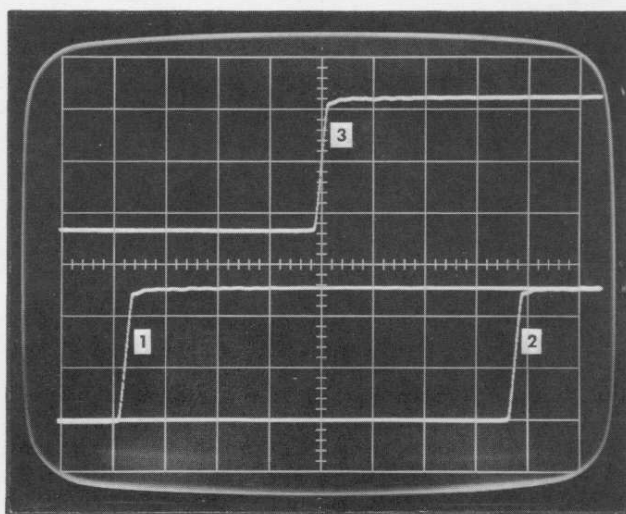

Fig. 6-13. Waveforms for step 17. Sweep rate: 2 ns/div, with Display mag switch at X1.
17. Adjust Type 352 A Delay Control ①
- c. Obtain a step display of the signal fed to Channel B. Set the B DELAY control fully counterclockwise and use the sampling sweep unit Time Position controls to move the step so the center of its rise passes to the left of the graticule 2.5 div point; see point no. 1, Fig. 6-13.
- d. Turn the B DELAY control fully clockwise. The step display should now be to the right of the graticule 7.5 div point; see point no. 2, Fig. 6-13. Adjust the sampling sweep Time Position controls so the two points (No. 1 and No. 2 of Fig. 6-13) fall equal distances on the left and right of the graticule centerline.
- e. Move the signal cable to Channel A input. The step display should now be at the graticule centerline: see Fig. 6-13, point No. 3. If not, adjust the A Delay control, R60 shown in Fig. 6-7, so that the step display half-amplitude point does cross at the graticule centerline.